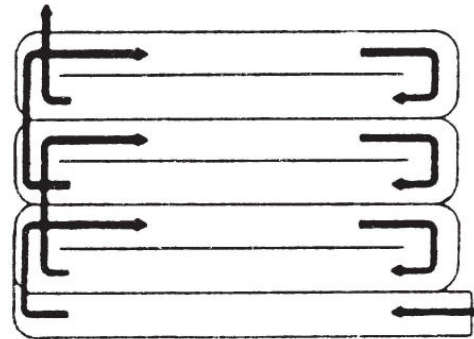

Figure 16
- In compacted soil or sod, or in food plot and sod busting applications, several passes may be necessary to till to a depth of seven (7) inches. For the first pass, just scratch the surface. The depth for each successive pass needs to be determined by individual site and soil conditions. If the machine stalls repeatedly, you should till slower or not as deep.
- Where possible, we recommend that you till in a pattern similar to that shown in **Figure 16**.